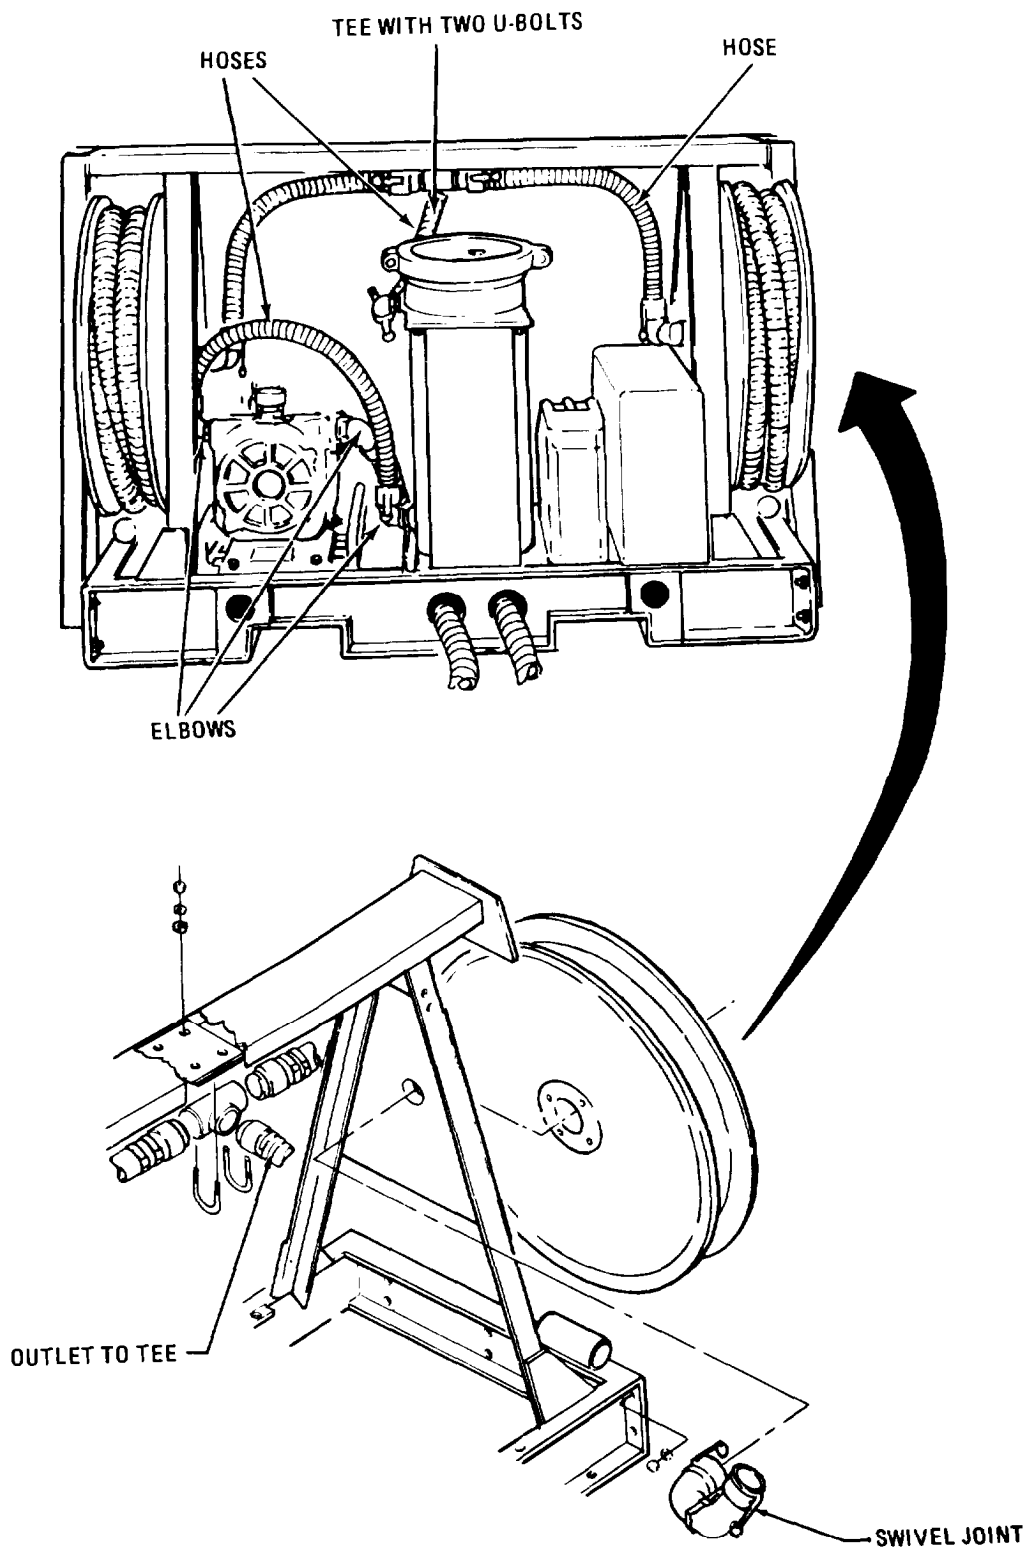

Figure 4-7. Elbows and Tee, Removal and Installation.
- (1) Disconnect hoses indicated on figure 4-7.
- (2) Remove elbows and tee.
- (1) Install elbows and tee (figure 4-7).
- (2) Connect hoses.